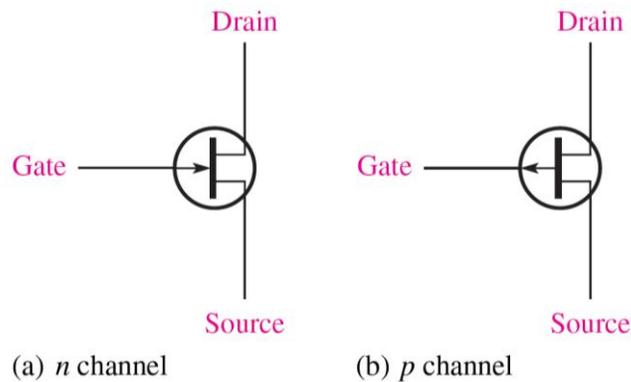

Figure 1: JFET schematic symbols
**JFET Symbols:** The schematic symbols for both  $n$ -channel and  $p$ -channel JFETs are shown in Figure 1. Notice that the arrow on the gate points “in” for  $n$ -channel and “out” for  $p$ -channel.